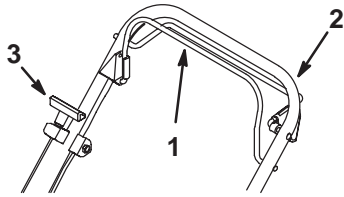

Figure 30
11. Hold the blade control bail against the upper handle (Fig. 30) and pull the starter rope several times to blow out any loose carbon.